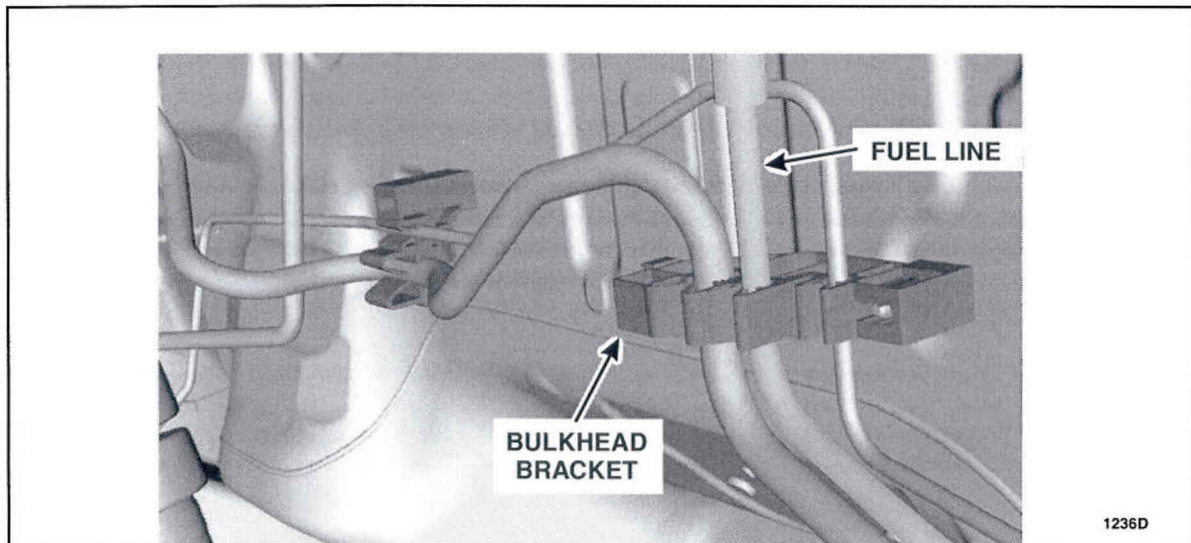

FIGURE 2
7. Unclip the fuel line from the bulkhead bracket (located on the lower left center of the bulkhead). See Figure 2.
10. Clip the fuel line into the bulkhead bracket. See Figure 2.